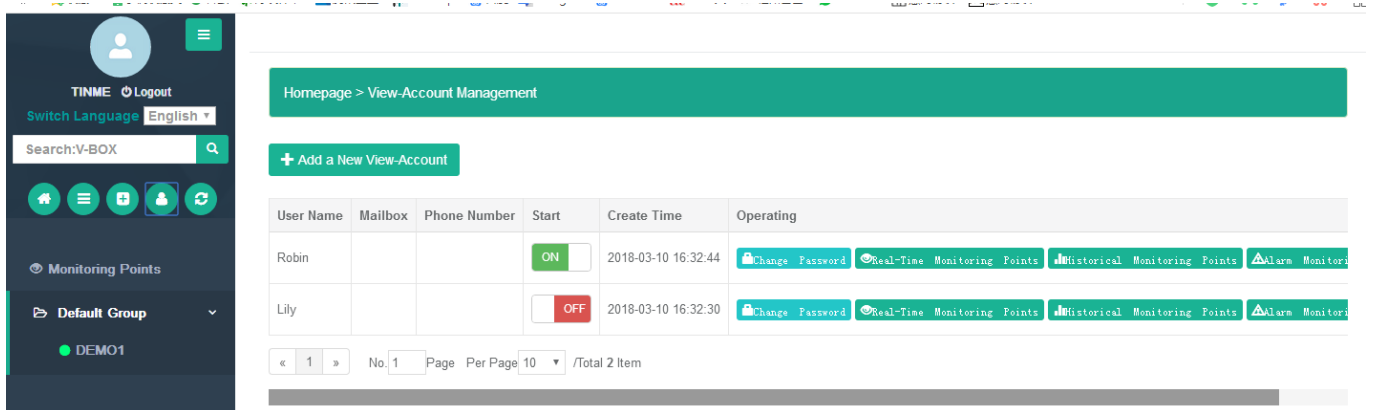

Figure 5-4
(2) Disable one sub-account by modify it directly, as shown in Figure 5-4.